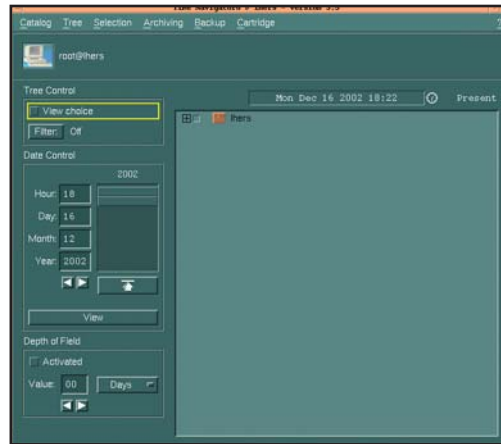

Figure 13. Time Navigator Client Interface.
- > Go to Platform Menu > TINA (the TINA client interface is launched — **Figure 13**)